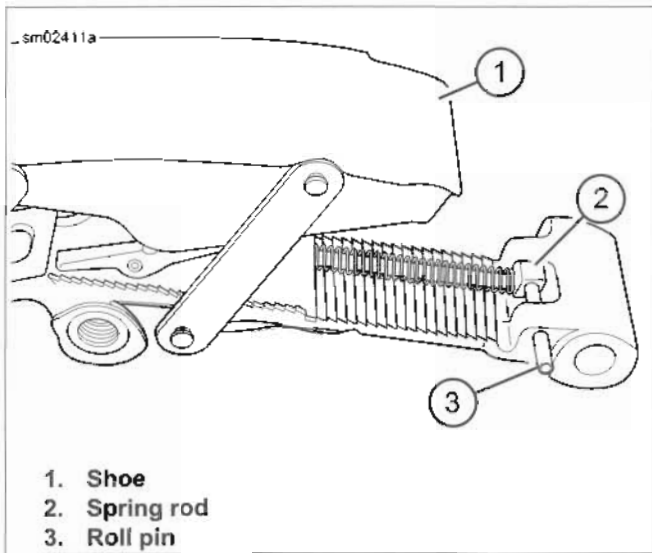
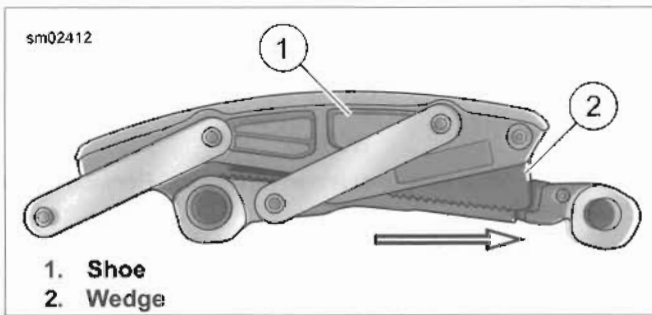

Figure 5-15. Spring Rod Location
Figure 5-16. Primary Chain Tensioner
- See Figure 5-15. Although primary chain tensioner is sold as an assembly, tensioner parts can be disassembled. If primary chain tensioner becomes disassembled, assemble in order shown.
16. Locate end of spring rod (2) on roll pin (3).
17. See Figure 5-16. Slide wedge of primary chain tensioner in direction of arrow until all travel is removed.